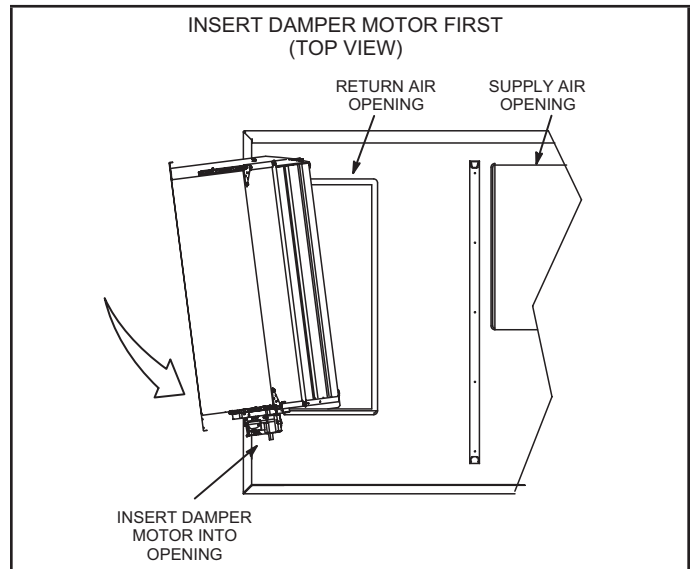

FIGURE 3
- 4 - Install damper assembly by inserting the damper motor first. See FIGURE 3.